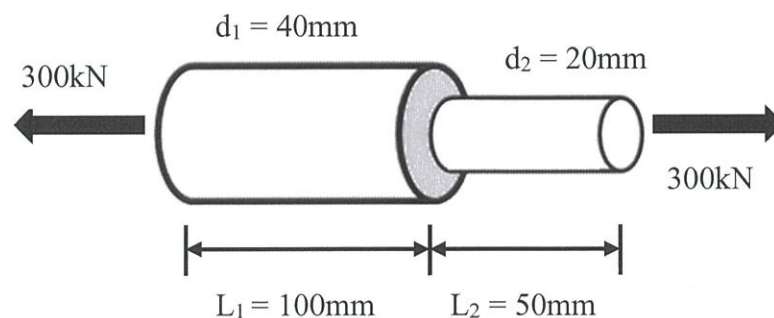

Figure 1(b) / Rajah 1(b)
- CLO1 (b) A shaft component shown in Figure 1(b) is subjected to a tensile load of 300kN. Determine the total elongation of the shaft if the Modulus of Elasticity is 220GPa.